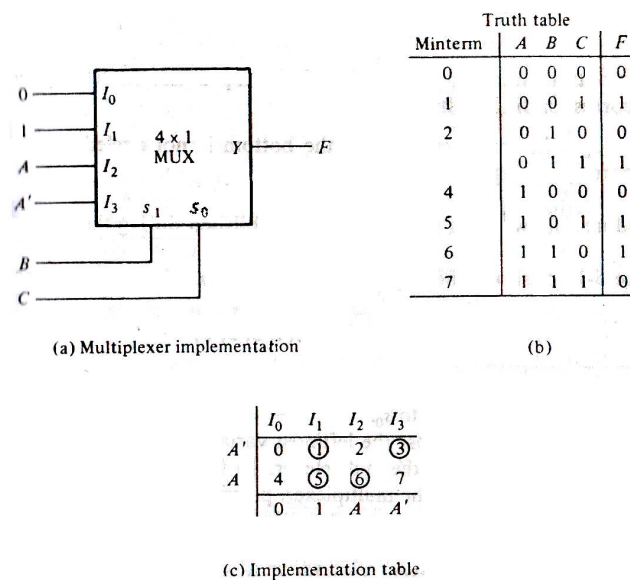

Fig. 11-1: Logic for implementing $F(A, B, C) = \sum(1, 3, 5, 6)$ with a Multiplexer
Step 3: Change Data Switches "0", "1" and "2" between "0" and "1" position and observe the situation of 8 bit LED Display "0". Verify that the circuit realizes the given function by reconstructing a truth table like that of fig. 11-1(b).